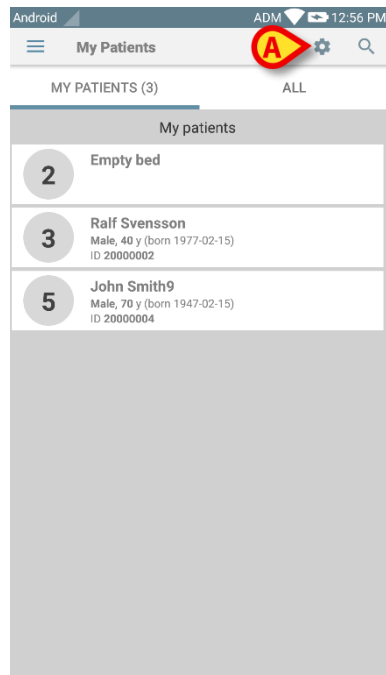

Fig 34
The device switches this way to “My patients” mode. “My patients” list will be displayed (Fig 34). In Fig 34 no patients is selected to be part of “My patients” list. See next paragraph for instructions on how to select “My patients”.
- touch the  icon (Fig 34 **A**).